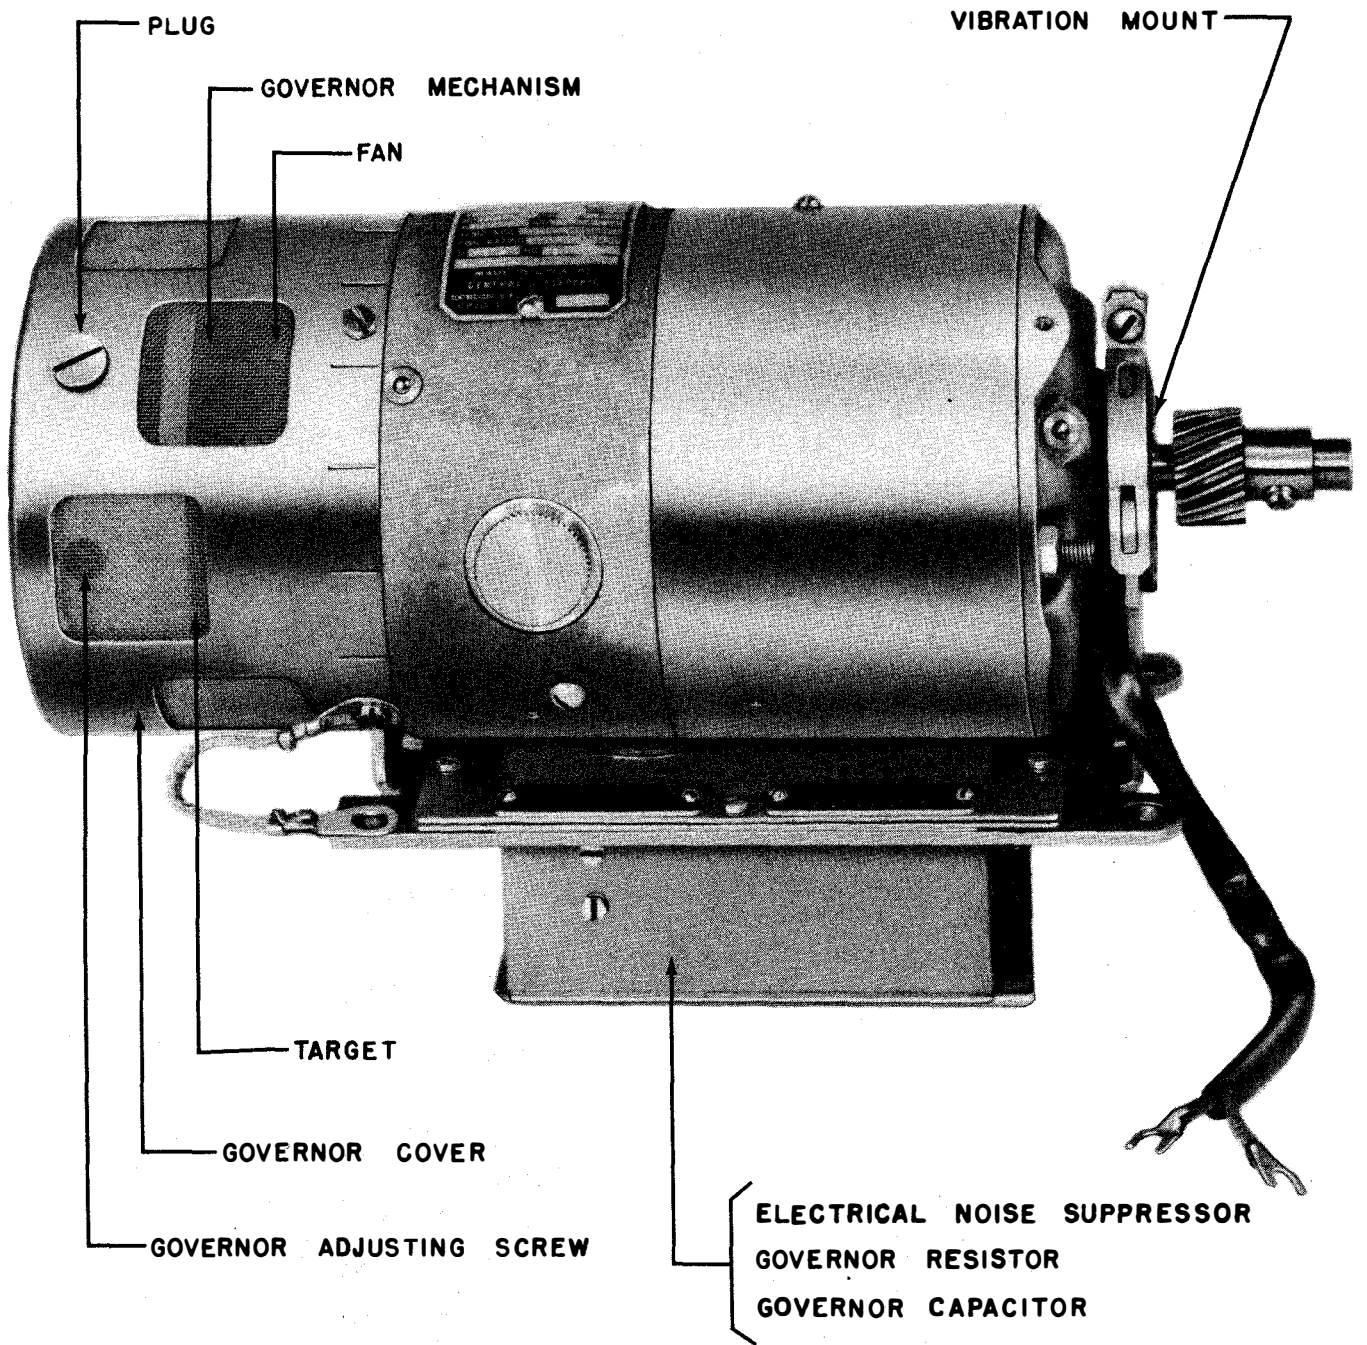

Figure 1-10. AC Motor PD-18/U, Governed
(2) AC MOTOR (GOVERNED) PD-18/U. (See figure 1-10.)